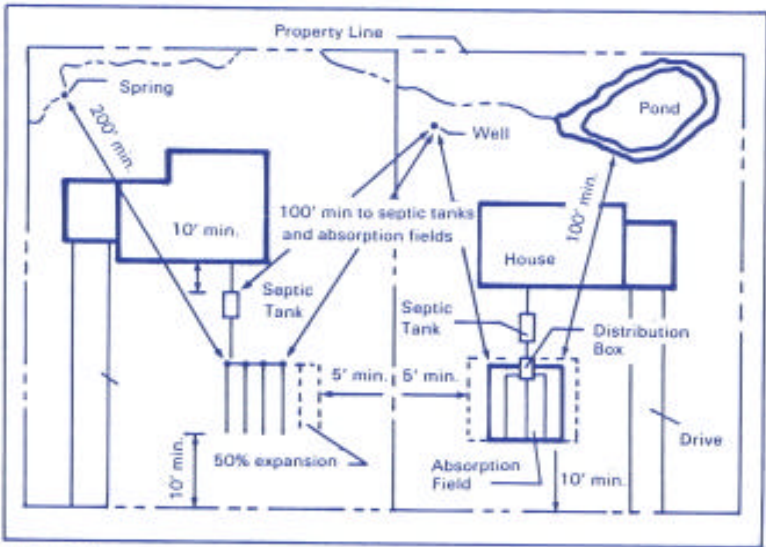

Figure 4.
**Site Evaluations** Virginia has specific regulations regarding the location of septic systems in relation to various landforms, buildings, water supplies, property lines, and the water table (Figure 4). The septic